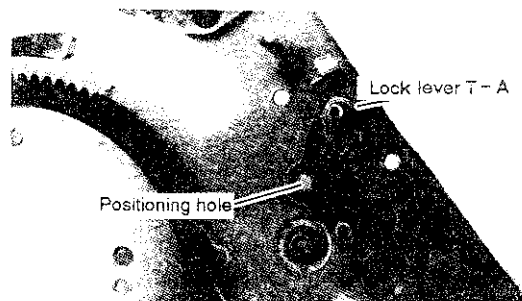

Fig. 3-18-3
- ① Make sure that registration marks and positioning holes of components shown in Fig. 3-18-3 are aligned with corresponding mark and hole of the main plate. Secure the supply cam S and cam S.
- ② Make sure that the lock lever T-A is attached on the main plate shaft.
- ③ Align the positioning holes of lock lever T-A, main plate and cam T. Attach the cam T to the main plate mounting shaft. Make sure that the gears of the cam T and takeup ring unit are meshed with each other.
- ④ Secure the cam T with screw ⑩.
- ⑤ Attach the cam lever T and spacer to the main plate mounting shaft. Make sure that the cam T lower pin is in the groove in the cam T.
- ⑥ Mount all the components described in para. 4-14 (Capstan motor replacement)
- ⑦ Mount the takeup guide arm.
- ⑧ Mount all the components described in para. 4-11 (Slant T replacement).
- ⑨ Attach the pinch roller assembly.
- ⑩ Mount the A/C head.
- ⑪ Attach the sync belt.